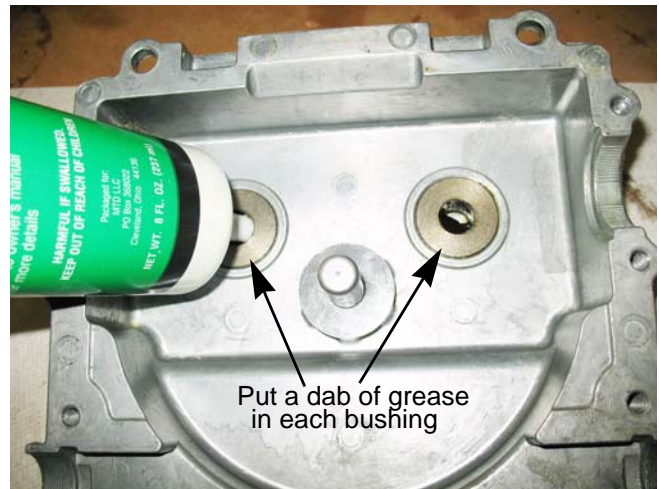

Figure 6.47
1. Put a dab of 737-0300A Durina™ grease into each of the bushings in the lower housing. See Figure 6.47.